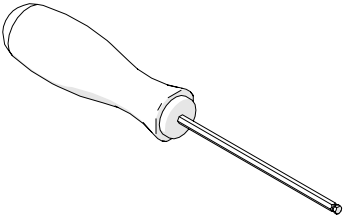
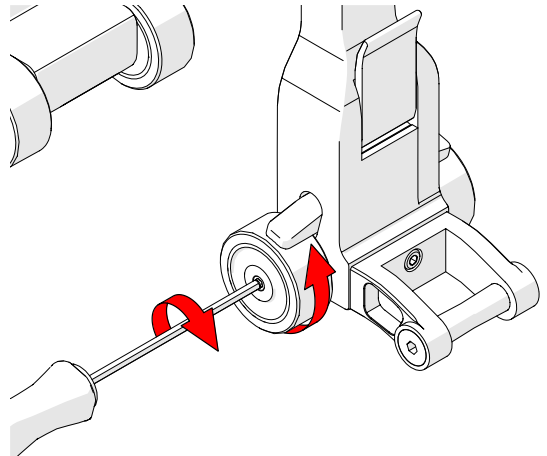

Fig. 16 - 3 mm hex driver
Fig. 27 - Removing wheels
- ▶ The 3 mm hex driver is sufficient for all typical operations and adjustments. (Fig. 16).
Tightly grip the wheel to be removed by hand. Insert the provided 3 mm hex driver in the shaft of the wheel to be removed (Fig. 16), and unthread the wheel from the axle (Fig. 27).
Press the wheel on the axle and insert the 3 mm hex driver in the shaft while threading the wheel to the axle (*Fig. 27*).